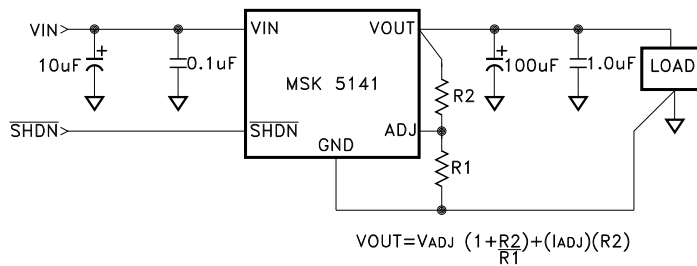

FIGURE 1
- ① The output is decoupled to ground using a 100μF low ESR tantalum capacitor in parallel with a 1μF ceramic capacitor. See figure 1 for typical circuit.
- ② Guaranteed by design but not tested. Typical parameters are representative of actual device performance but are for reference only.
- ③ Industrial grade devices shall be tested to subgroups 1 unless otherwise requested.
- ④ Military grade devices ("H" suffix) shall be 100% tested to subgroups 1,2 and 3.
- ⑤ Subgroup 1 TC = +25°C
The output voltage range of the MSK 5141 is 1.21V to 20V. The output voltage is set by the ratio of two external resistors as shown in Figure 1. The device monitors the output to maintain the voltage at the ADJ pin. The ADJ pin is the input to the error amplifier. It has a bias current of  $3\mu\text{A}$  which flows through R2 into the pin. The ADJ pin voltage is 1.21V referenced to ground. The value of R1 should be less than 4.17K to minimize errors in the output voltage caused by the ADJ pin bias current. Reference the typical performance curves for load regulation variation due to the change in the output voltage.